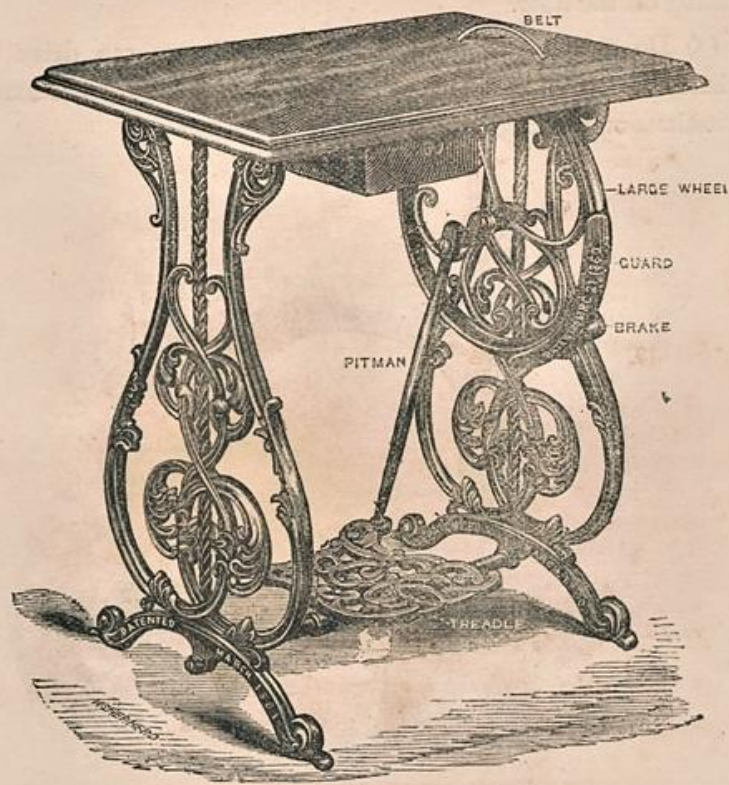

FIG. 1.—NAMES OF THE PARTS OF THE STAND.
*The figures 1, 2, 3, &c., denote the paragraphs, the letters (a), (b), (c), &c., the items under the paragraphs. For the purpose of explanation, references are made thus:—(1, c, d), meaning paragraph 1, items (c) and (d)*